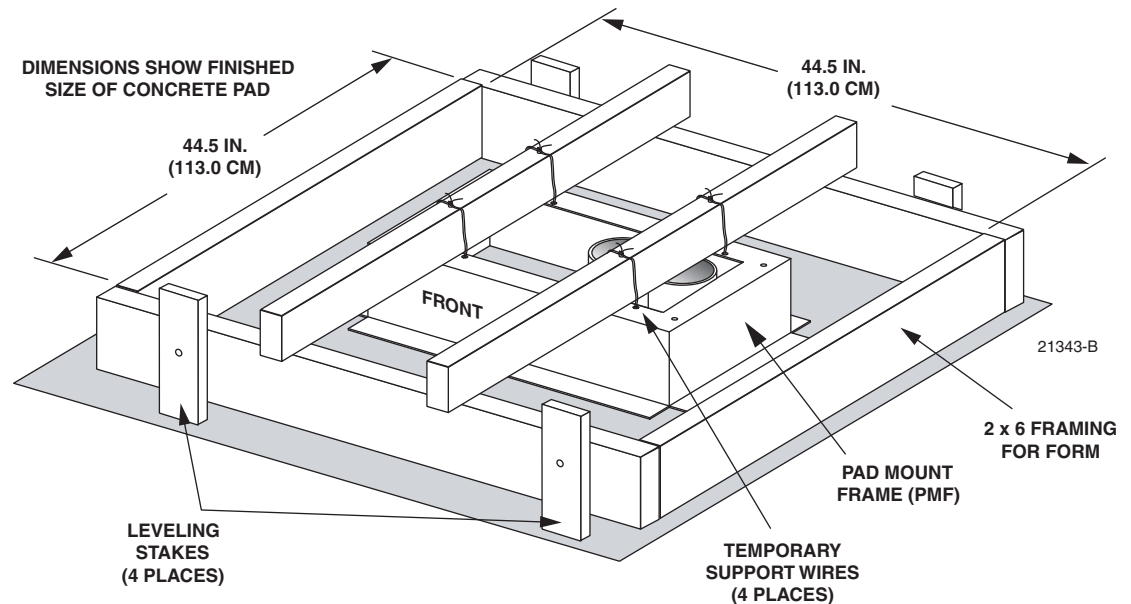

Figure 12. Concrete Pad Framing
1. Build a wood form for the concrete pad using 2 x 6 framing lumber as shown in Figure 12.
- **Note:** Use temporary top framing to keep the top surface of the PMF flush and level with the top of the concrete pad (see Figure 12).